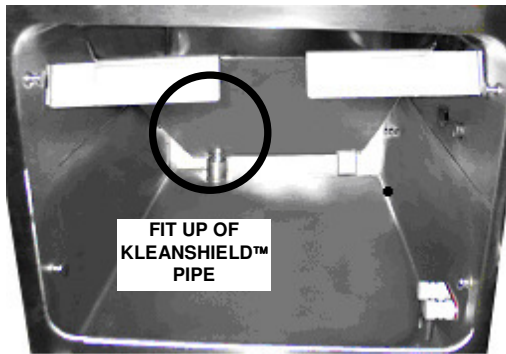

Figure 3-3 KleanShield™ Installation (SteamChef 3.1 shown)
- 3) Set the KleanShield™ in place over the corresponding pipe extending out of the bottom of the steamer reservoir. See Figure 3-3.